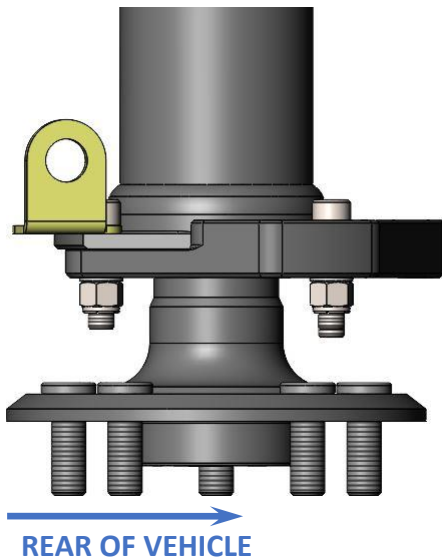

Figure 2c – TOP VIEW Primary Caliper Bracket Installed
5. Reinstall the axle shaft into the axle housing. Follow this by installing the supplied 3/8"-24 x 1.500" Socket Head Cap Screws (p/n: DB1515 or DB1517) or the 1/2"-20 x 1.500" Button Head Cap Screws (p/n: DB1516) into the axle housing. Make sure that the 2 forward most bolts go through the supplied Brake Hose Mounting Brackets. These brackets are left and right specific and are designed so the tab faces inward to the vehicle. With the bolts in place, slide the Primary Caliper Bracket over the axle shaft and onto the bolts. **NOTE: The Primary Caliper Brackets are left and right specific and designed to position the calipers towards the rear of the vehicle.** See Figures 2a and 2b below for bracket orientation and installation. Install the AN washers and Nylon Lock Nuts and torque all bolts (the 3/8"-24 bolts torque to 40 lb/ft and the 1/2"-20 bolts torque to 75 lb/ft). Refer to Figures 2c and 2d below for what it will look like properly installed.